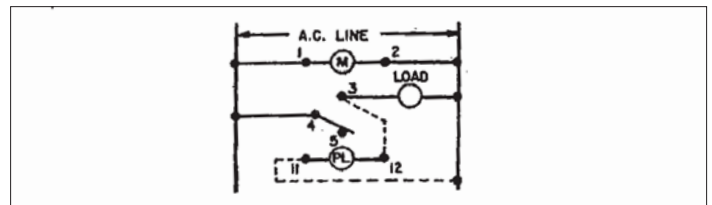

Figure 3
1. Adjust the knob and black pointer to the percent 'on' time desired. When the system is energized, the red progress pointer will rotate counter clockwise. When the red pointer meets the black pointer the load is energized and the pilot light is illuminated (if wired as per Figure 3). When the red pointer passes 100, the load will de-energize.